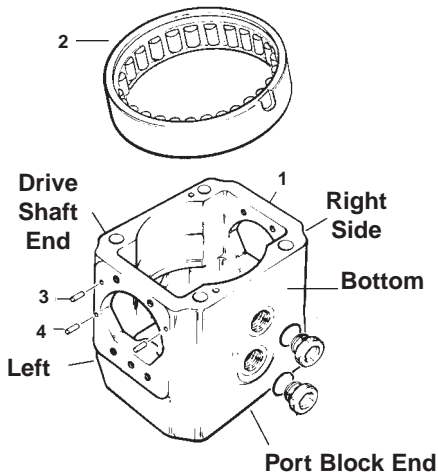

Figure 5
See figure 5. Position housing (1) on a clean flat surface with the large open end up.
PARTS LIST FOR FIGURE 5